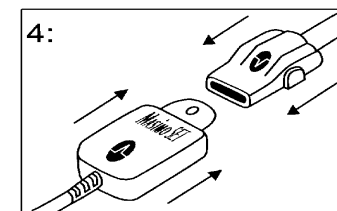

Fig. 21 Connecting patient cable and sensor
1. Orient the connecting tab so that the “shiny” contacts are facing up and mate the logo to the logo on the patient cable (Fig. 21). Insert the LNOP DC1 connector over the patient cable connector until there is a tactile or audible click of connection.